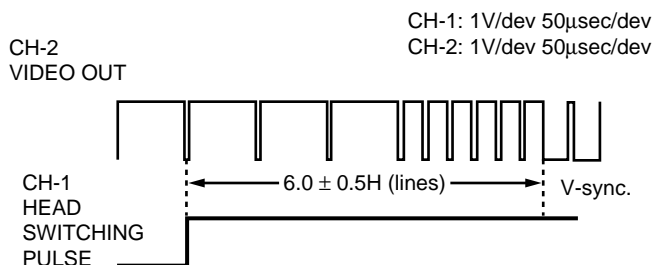

Figure 5-2.
4. Adjust R701 so that the leading edge of the head switching pulse is $6.0H$ (lines) ahead of the vertical sync as shown in Figure 5-2.